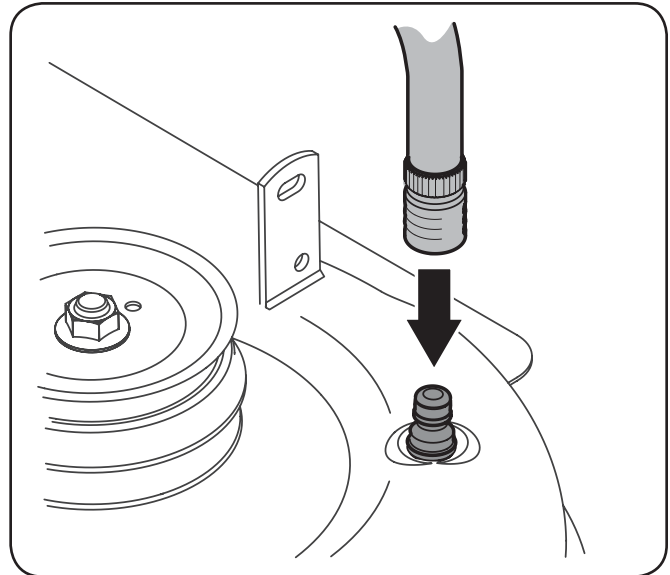

Figure 6-3
3. Attach the hose coupler to the water port on your deck's surface. See Fig. 6-3.